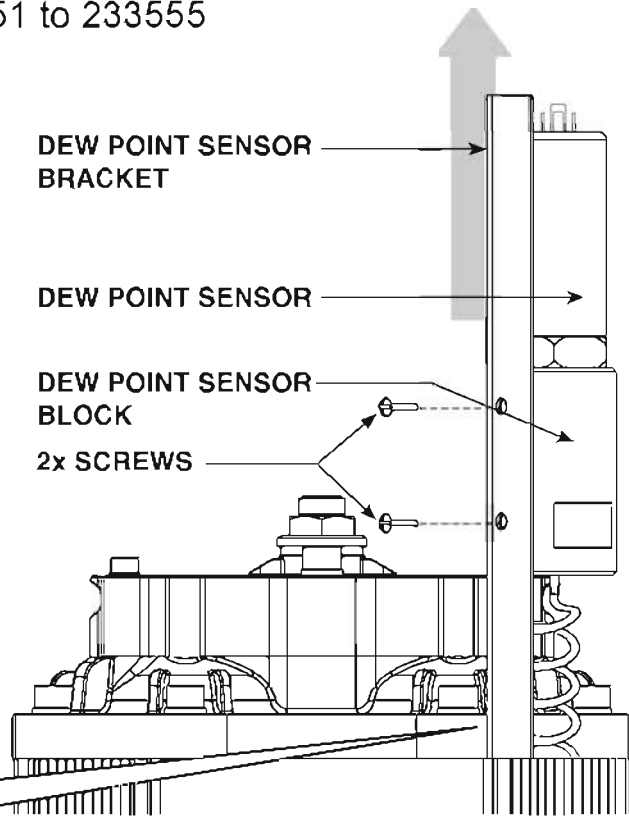

Figure 5.
4. Remove the dew point sensor assembly by sliding the sensor bracket upwards from the dryer shroud to expose the sensor block fixing screws. (See Figure 4 page 25 & Figure 5 this page).
5. Remove the 2x fixing screws from the assembly to detach the sensor from the bracket. (See Figure 5)